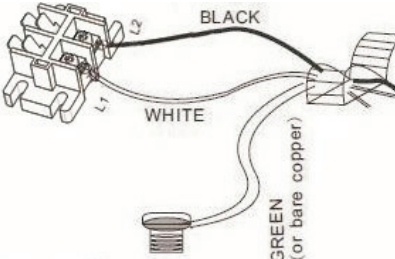

Figure 9
- Connect the wire to the power block located in the base of the heater - See Figure 9.